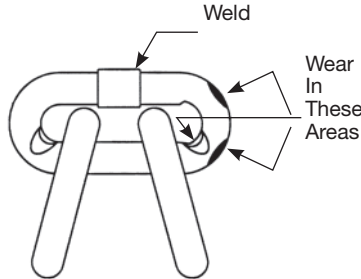

Figure 6 - Chain Inspection
- Chain for excessive wear or stretch (See Figures 6 and 7, page 7).